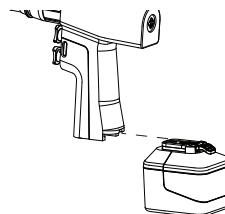

Figure 2 – To Install Battery Pack
1. Slide a fully charged battery pack firmly into the handpiece until the battery latch snaps, indicating the battery pack is secure (see figure 2).